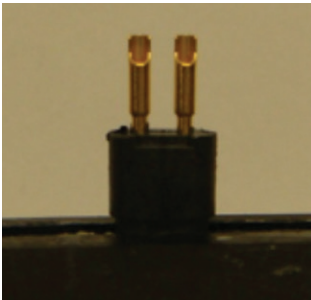

Figure 55: Before degolding contacts
16. Degold all contacts by applying flux and then solder. Using solder wick, remove all excess solder from the solder cups (Figures 55–56).